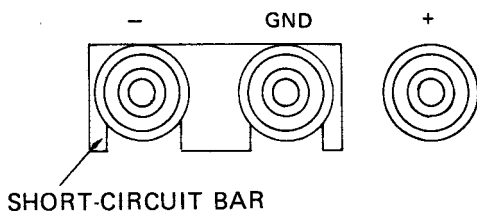

Fig. 6-1
- (1) When the + terminal ⑩ or the - terminal ⑫ is to be connected always to the GND terminal ⑪, the shortcircuit bar as an accessory should be connected as shown in Fig. 6-1